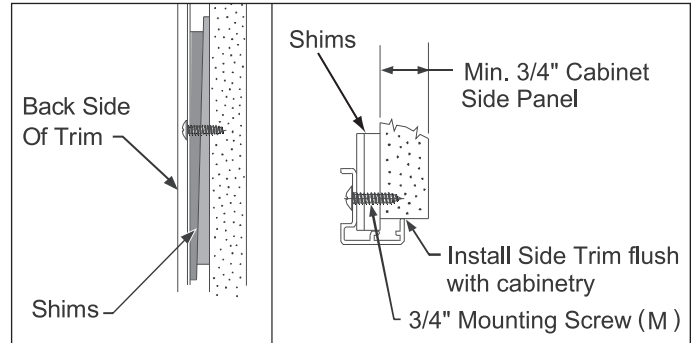

Figure 2-17.
4. Shim as necessary (shims are not included). (See Figures 2-17 and 2-18). Next, secure both ends of top trim (A) to cabinetry using two 3/4" mounting screws (M) through the holes at each end. Make sure all screws are snug across the top.